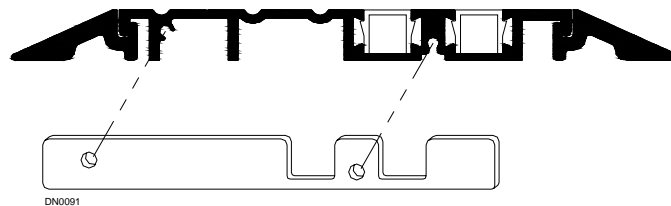

Figure 9
6. A screw spline has been extruded on the underside of the threshold. Stainless steel caps and screws are supplied in parts box to seal off exposed end of threshold. If screws install tightly, try drilling spline with a 1/8-inch dia. drill bit (see Figure 9).